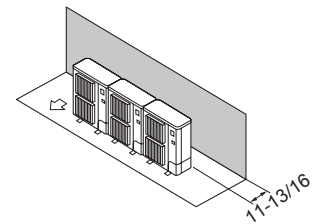

Fig. 3-11
① Obstacles at rear only (Fig. 3-11)